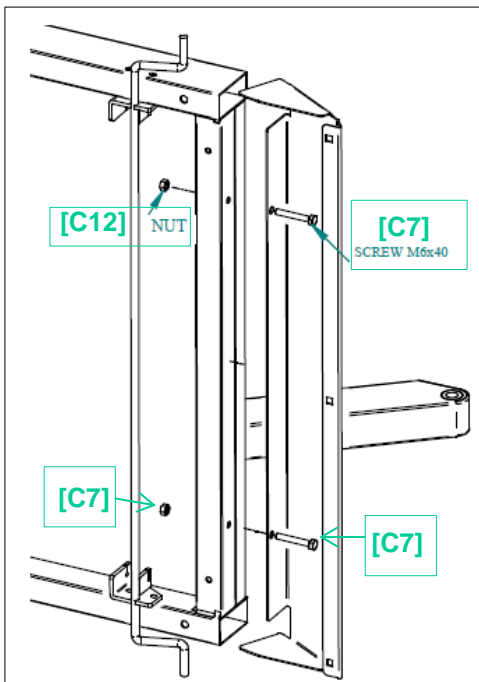

Fig. 1
- 5 Install the ramps with the hardware provided (Fig. 1).